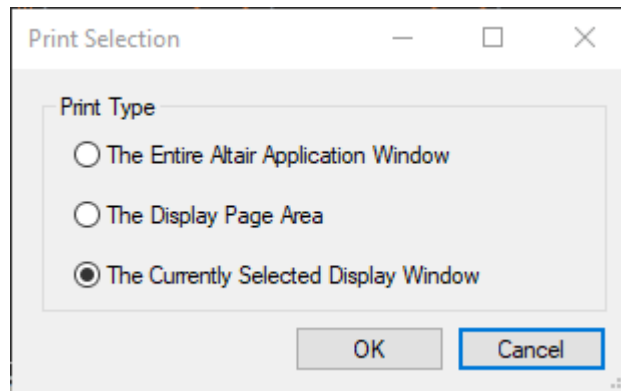

Figure 169 – Print Type Selection Form
1. On the ALTAIR main screen, select the menu option **File\Print** or **File\Print Preview**. The print selection screen will be displayed. (See Figure 169 – Print Type Selection Form below.)